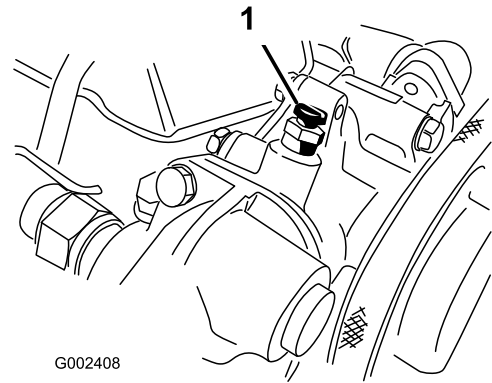

Figure 62
6. Open bleed screw on top of water pump (Figure 62).